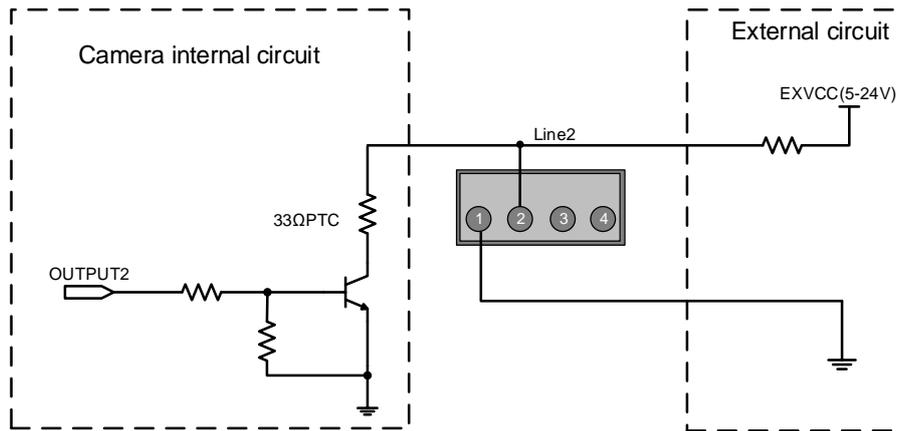

Figure 7-10 Internal equivalent circuit of camera when Line2 is configured as output
- When Line2 is configured as output, the internal equivalent circuit of camera is shown in Figure 7-10, take Line2 as an example